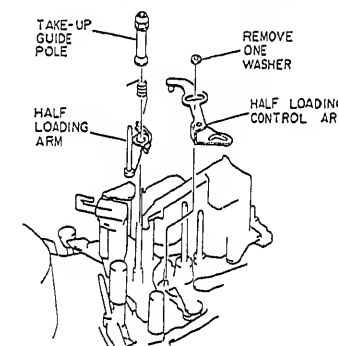

Fig. 2-77
1. Turn the upper section of the take-up guide pole using the hexagonal box wrench (5.0mm) to remove the take-up guide pole. (See Fig. 2-77)
2. Remove one (1) washer holding the half loading control arm.